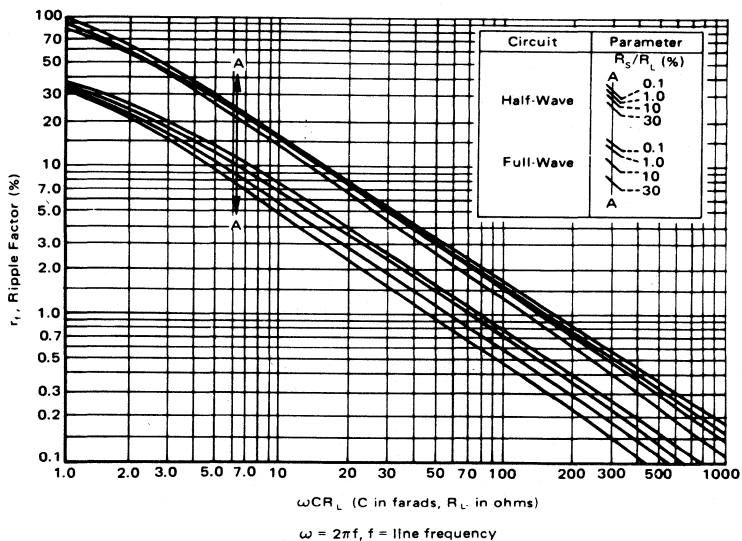

Fig. 3 - Ripple Voltage Vs. Input Capacitance and R_s/R_L
8. Let's calculate the ripple voltage obtained with $\omega CR_L = 10$ and $\frac{R_s}{R_L} = 0,02$ from graph of fig. 3